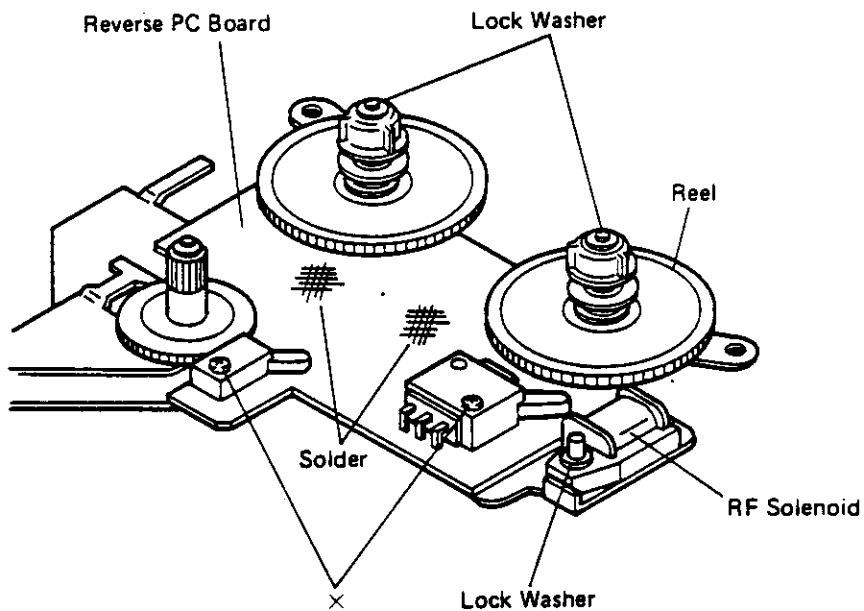

FIGURE 4-25. REVERSE PC BOARD & REELS
- d. After removal of the reels, desolder two locations and remove two screws (marked X) and one lock washer. Desolder leads from the RF solenoid (see Figure 4-25).